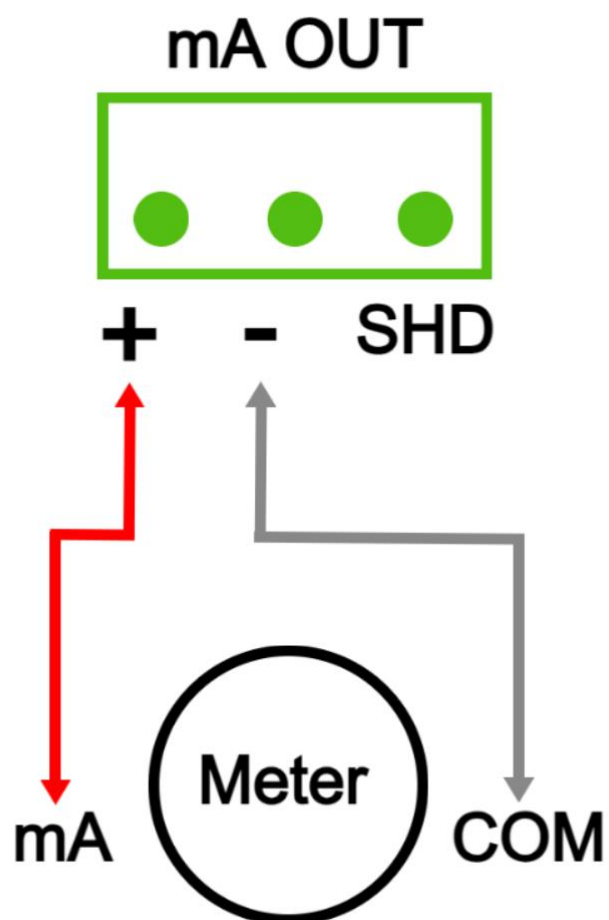

Figure 10: Scale (Self-Powered) mA Output Wiring Diagram
- **Wiring Connection:** Push down on the spring terminal and insert the wires into the location, matching the signal polarity to the label: signal positive to +, signal COM to -, and shield to SHD. **For detailed wiring information, view figures 10 and 11.** Gently tug on each wiring connection to ensure a secure connection.